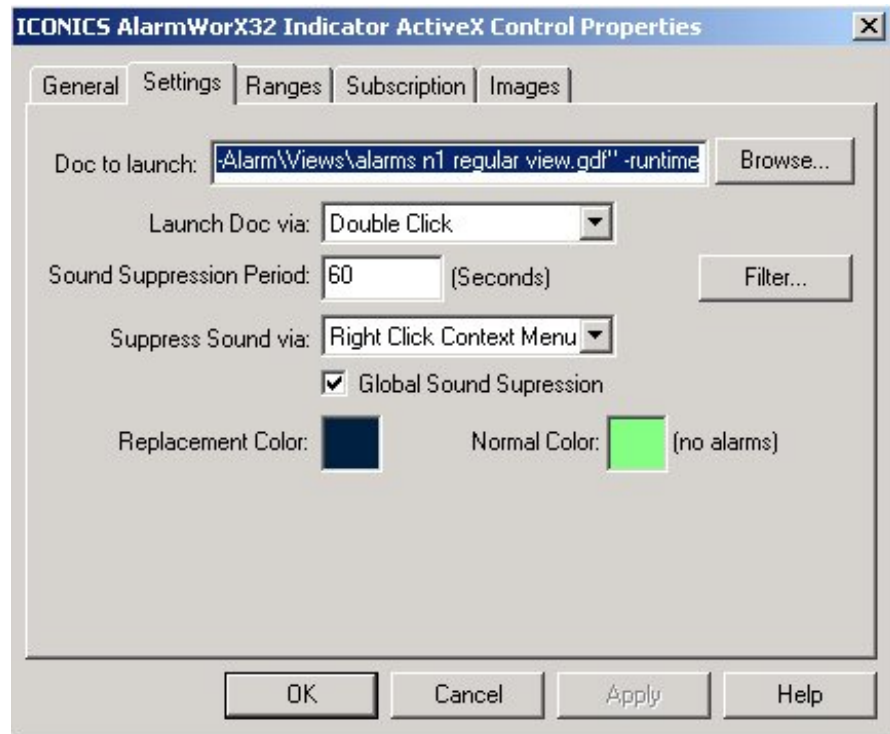

Figure 4-15: ActiveX Control Properties Dialog Box
5. Select the Settings tab (Figure 4-15).